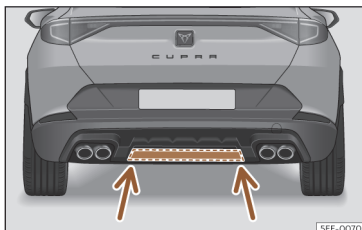

Fig. 87 Lower sensor detection area.
- If the rear lid fails to open, repeat the procedure after a few seconds. The detection zone of the lower sensor may not have been reached >>> **Fig. 87**.